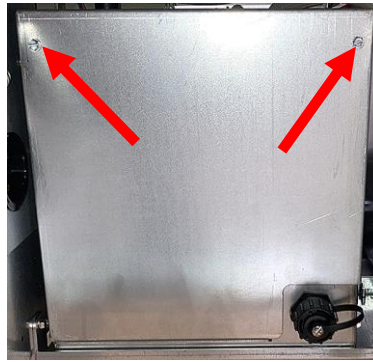

Figure 5
4. Remove the FIB box cover by removing the two (2) ¼" screws attaching the cover and lifting on the cover to remove (see Figure 5). This box may vary by date of manufacture.